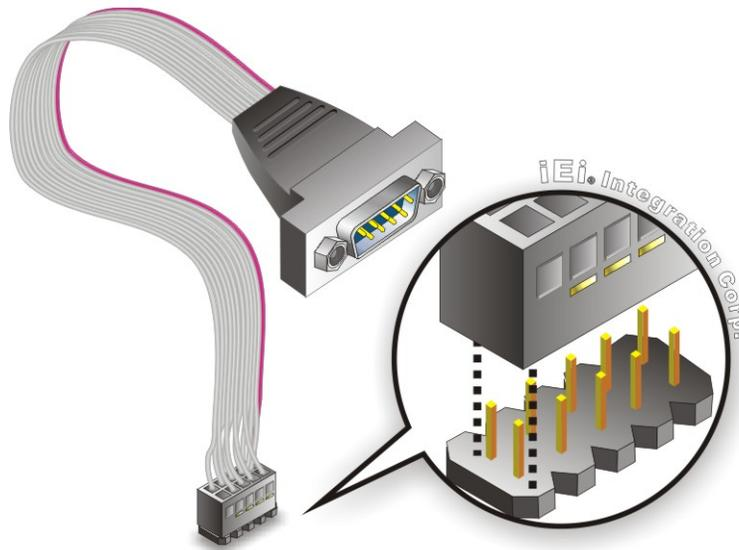

Figure 4-8: Single RS-232 Cable Installation
- Step 2: Insert the cable connector.** Insert the connector into the serial port box header. See **Figure 4-8**. A key on the front of the cable connectors ensures the connector can only be installed in one direction.